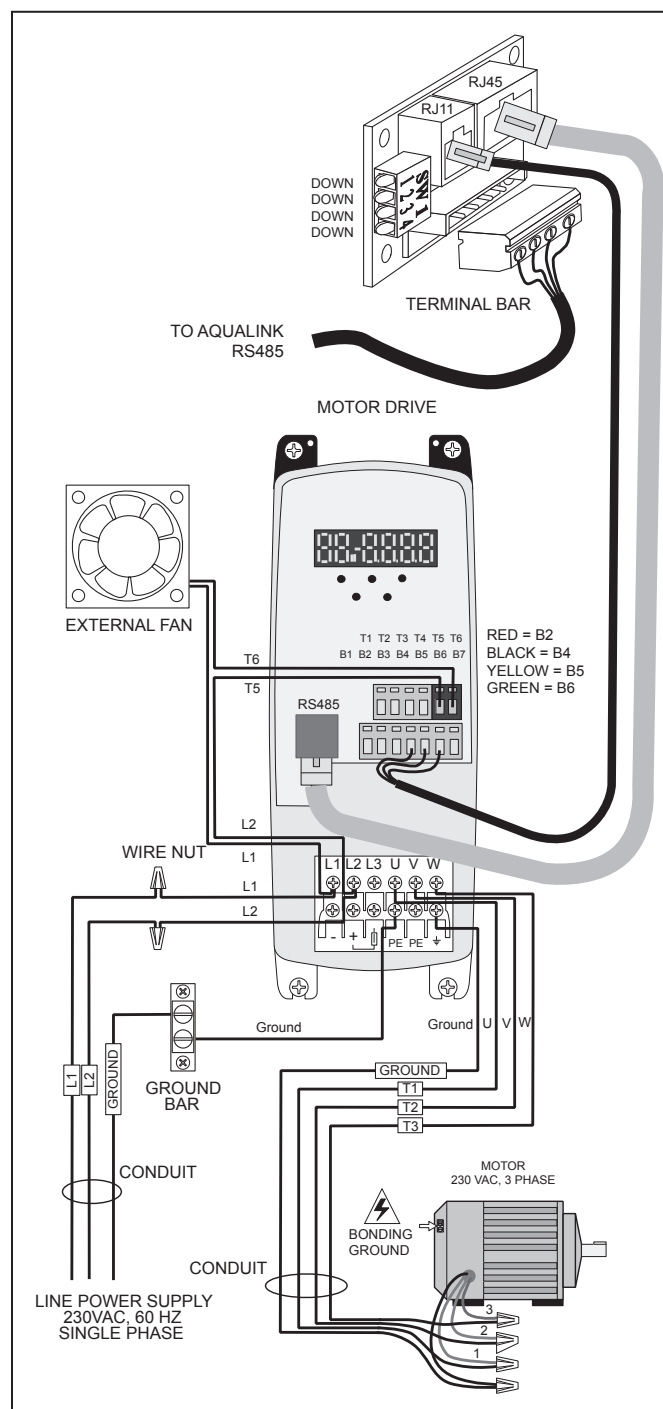

Figure 9. Wiring of the Jandy ePump™ AC Variable Speed Pump to the Motor Drive
This section describes how to connect a Jandy ePump™ AC variable speed pump to the power. As shown in Figure 9, the 230VAC single phase power is supplied to the motor drive. The motor drive supplies the motor with 230VAC three phase power. Low voltage RS485 communications cable from the power center is supplied to the motor drive as well.
6. Permanently ground the motor using green ground wire, as shown in Figure 9. Use the correct wire size and type specified by the National Electrical Code (NEC) and the Canadian Electrical Code (CEC).
7. Bond the motor to the pool structure in accordance with the National Electrical Code (NEC) and the Canadian Electrical Code (CEC). Use a solid No. 8 AWG or larger copper conductor. Run a wire from the external bonding lug to the pool bonding structure, as shown in Figure 9.
As shown in Figure 9, the 4-position dip switch is located on the VFD voltage regulator PCB inside of the motor drive enclosure. This dip switch serves two different functions - it determines what type of control will be used with the pump and it selects the pump address. The SW 1 (switch 1) and SW 2 are turned ON if the pump is to be controlled by stand alone controller or OFF if the pump is to be controlled by the AquaLink® power center.
Refer to Figure 9.